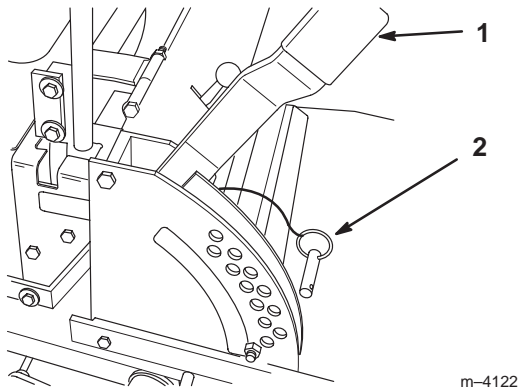

Figure 17
1. Raise the height-of-cut lever to the transport position (also the 4-1/2 inch [114 mm] cutting height position) (Fig. 17).
2. Remove the clevis pin from the height-of-cut bracket (Fig. 17).
3. Select the hole in the height-of-cut bracket corresponding to the height-of-cut desired, and insert the clevis pin (Fig. 17).
4. Lower the height-of-cut lever onto the clevis pin (Fig. 17).